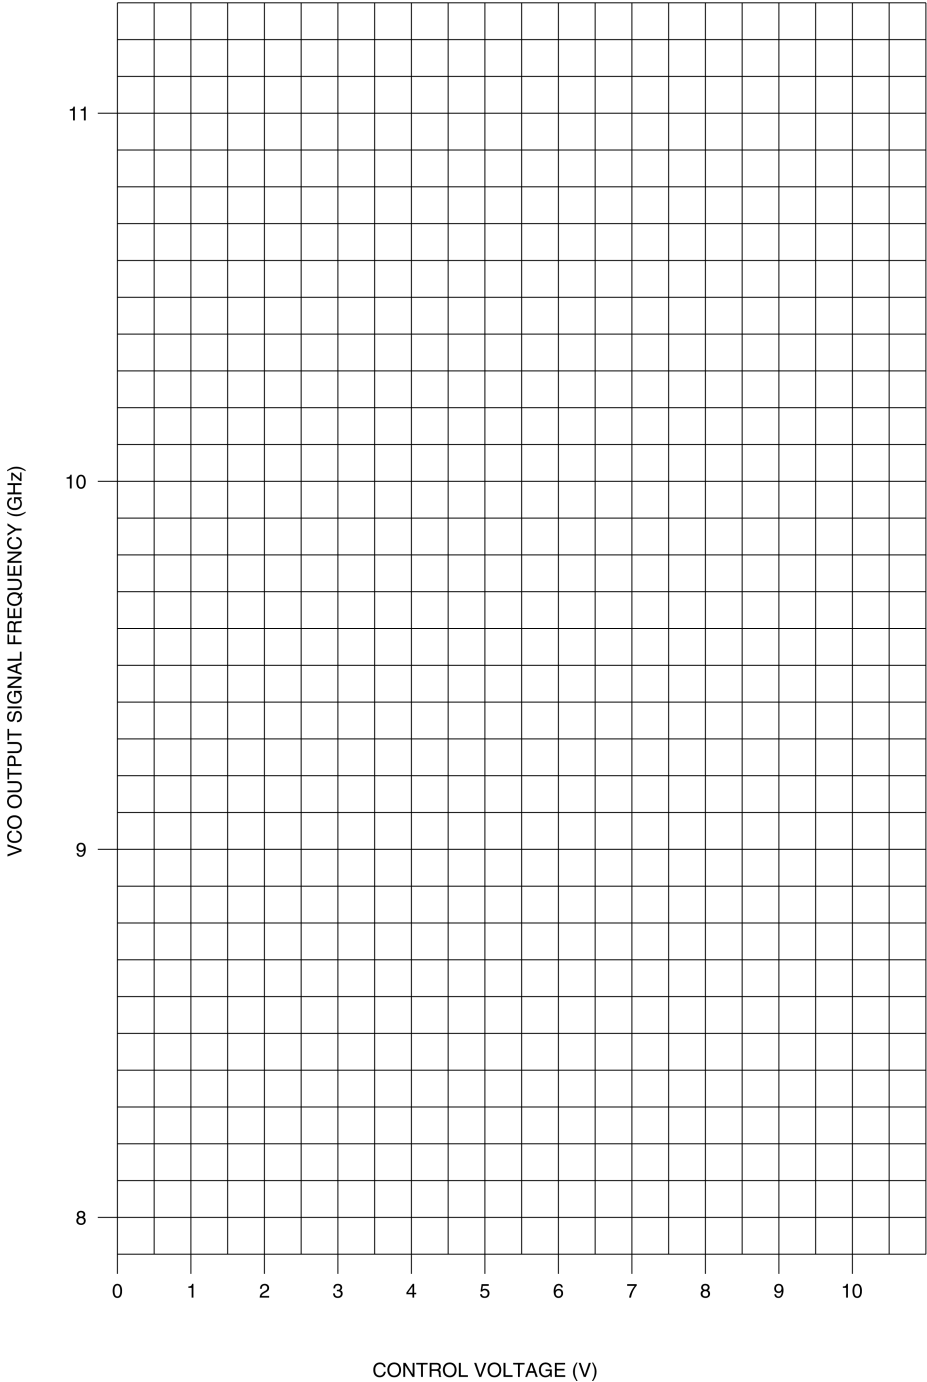

Figure 2-7. VCO output signal frequency as a function of the control voltage.
6. From the results you obtained in Table 2-1, plot in Figure 2-7 the VCO output signal frequency as a function of the control voltage.